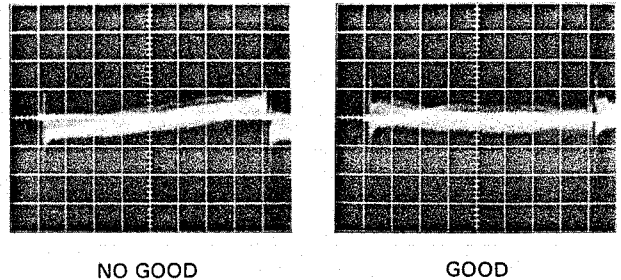

Fig. 6-4-31
(2) B signal vertical shading adjustment
- Adjust B-V.SAW VR206 and B-V.PARA VR207 to make the waveform as flat as possible. (Fig.6-4-31)